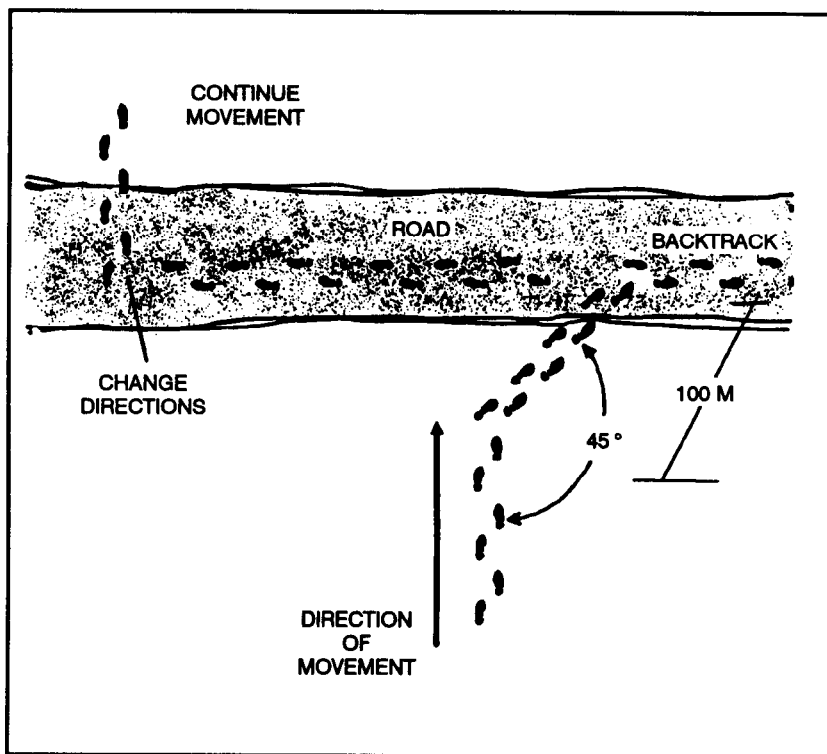

Figure 8-8. Cut the corner.
c. **Cut the Corner.** Cut-the-corner technique is used when approaching a known road or trail. About 100 meters from the road, the sniper team changes its direction of movement, either 45 degrees left or right. Once the road is reached, the sniper team leaves a visible trail in the same direction of the deception for a short distance on the road. The tracker should believe that the sniper team “cut the corner” to save time. The sniper team backtracks on the trail to the point where it entered the road, and then it carefully moves on the road without leaving a good trail. Once the desired distance is achieved, the sniper team changes direction and continues movement (Figure 8-8).